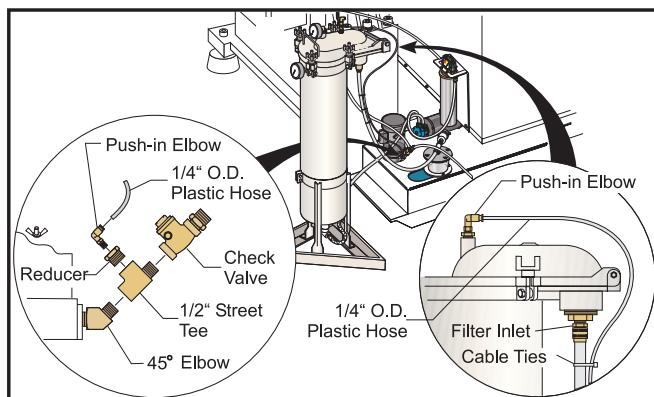

Figure 3.0 Auxiliary Filter Priming System
3. Disconnect the 1/2" check valve from the 45° elbow at the base of the normal coolant pump. Install the 1/2" street-tee from the kit between the 45° elbow and the check valve. Install the pipe reducer from the kit into the side outlet of the street-tee. Install the 1/4" push-in elbow into the pipe reducer. (See figure 3.0).
4. Insert the 1/4" OD plastic hose into the push-in elbow on the pump. Route the hose along the intake filter hose and around the hinge of the auxiliary filter. Trim the plastic hose to length and insert it into the push-in elbow at the top of the filter. Secure the plastic hose to the inlet hose with the supplied cable ties. (See figure 3.0).